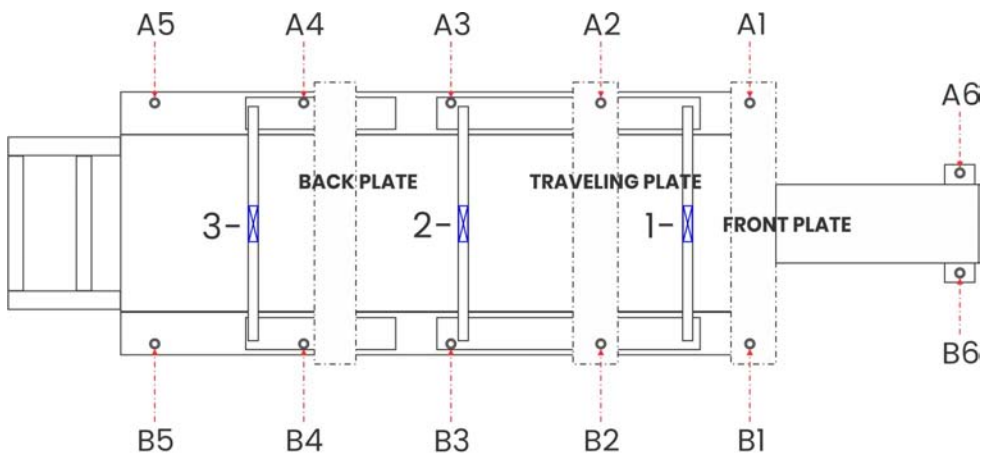

Figure 2-3
20. Check the front-to-rear level readings at positions 1, 2, & 3 as shown in Figure 2-3. These three readings should now be approximately the same and show either Side-A or Side-B as the low side.